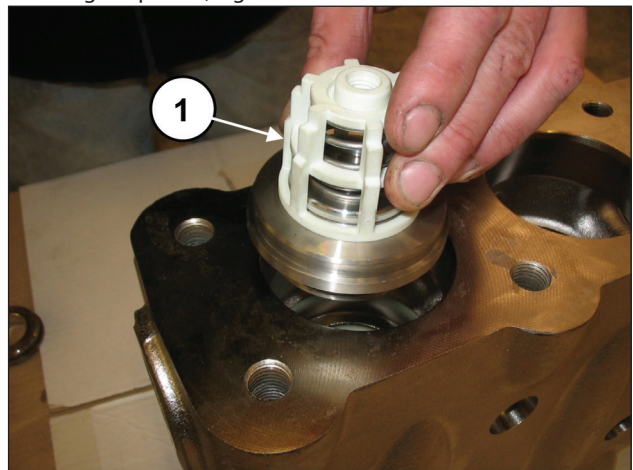
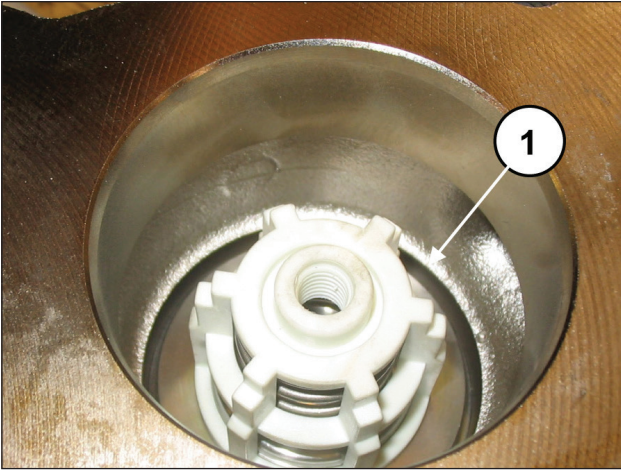

Fig. 107
Fig. 108
Insert the outlet valve unit (pos. ①, Fig. 107). The valve unit must be fully inserted into the bottom and should look like the image in pos. ①, Fig. 108.